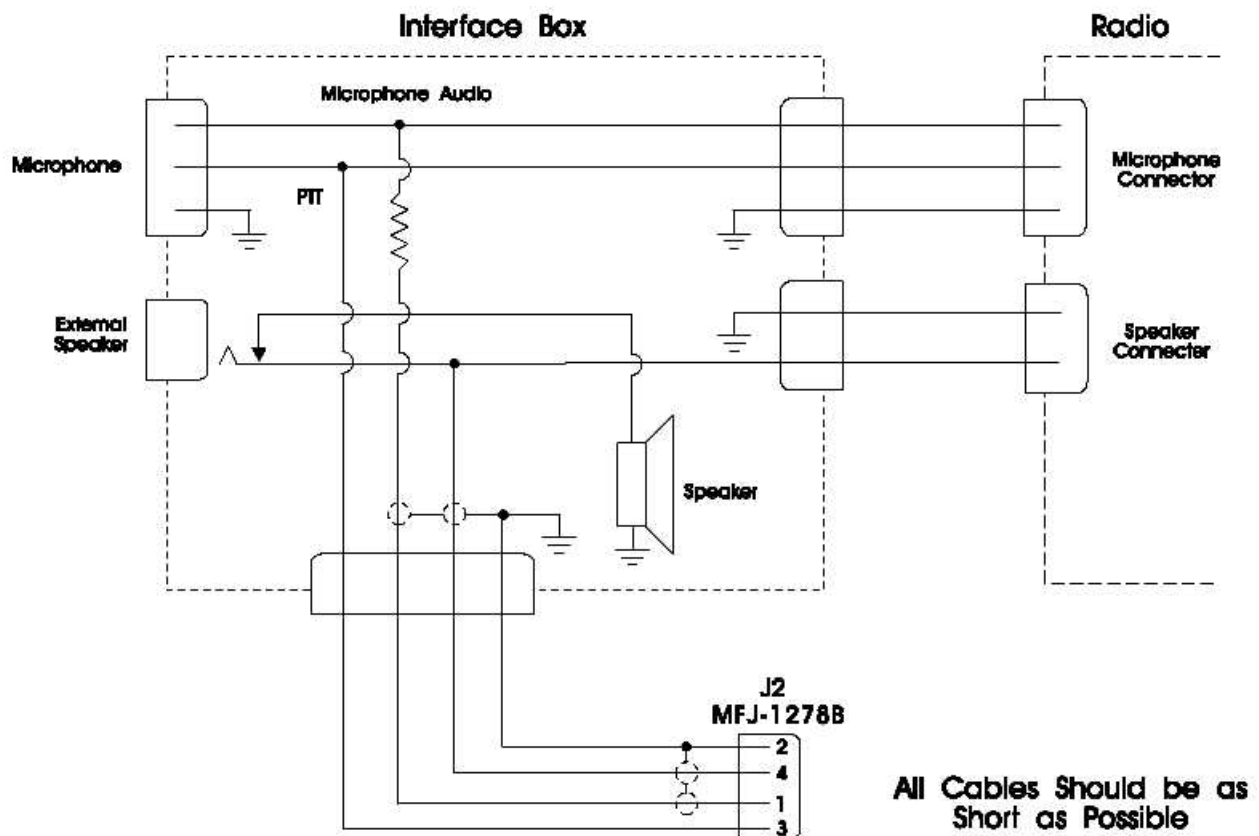

Fig. 3-7 External Interface Box
If your radio does not have an accessory jack and you don't wish to add a connector to your radio, you may construct a separate external interface box. This box will permit simultaneous connection of your MFJ-1278B and a microphone. Figure 3-7 shows a schematic of an external interface box.
A microphone interface box similar to the one shown in Fig. 3-7 is available from MFJ Enterprises, Inc. or from any dealer of MFJ products. The Model No. of the microphone interface box is MFJ-1272B.
If you built the external interface box as in Fig.3-7, then follow this procedure to adjust R(s).
2. Temporarily solder a variable resistor in place of R(s) Fig. 3-7. The maximum value of this resistor can be determined by experiment. However, a 500 k $\Omega$  resistor should be adequate most cases. Connect your MFJ-1278B to the radio. Connect the microphone to the radio, or to the interface box if one is being used. Connect the radio to a dummy load and listen to the transmission with another nearby radio. Adjust R(s) for proper modulation as the next sections describe.